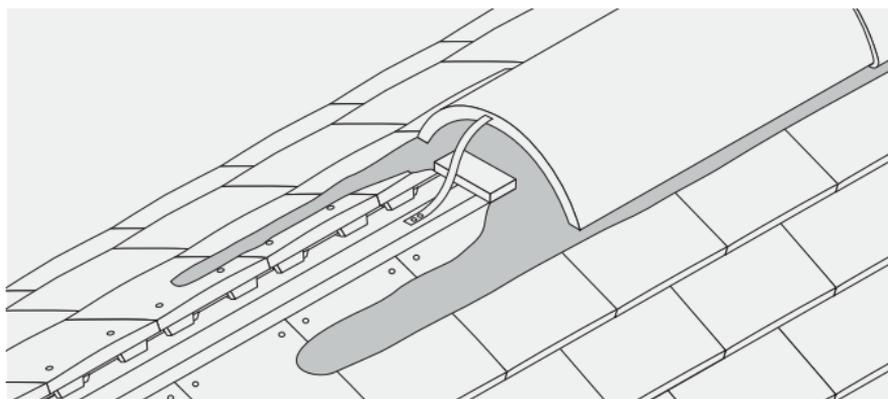

Fig. 20 – Typical bedded ridge with traditional galvanised security wire
- 1 Edge-bed ridge tiles onto the top course tiles with solid bedding at butt joints (Fig. 20).
- 4 Fix metal strap to ridge board or supplementary batten (Fig. 20, page 36).